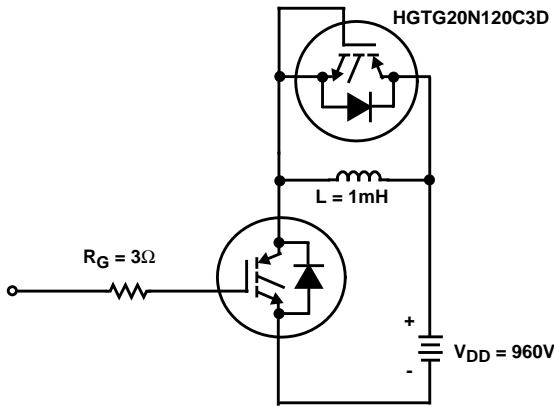

FIGURE 19. INDUCTIVE SWITCHING TEST CIRCUIT
- Values for two Turn-On loss conditions are shown for the convenience of the circuit designer. E_{ON1} is the turn-on loss of the IGBT only. E_{ON2} is the turn-on loss when a typical diode is used in the test circuit and the diode is at the same T_J as the IGBT. The diode type is specified in Figure 19.